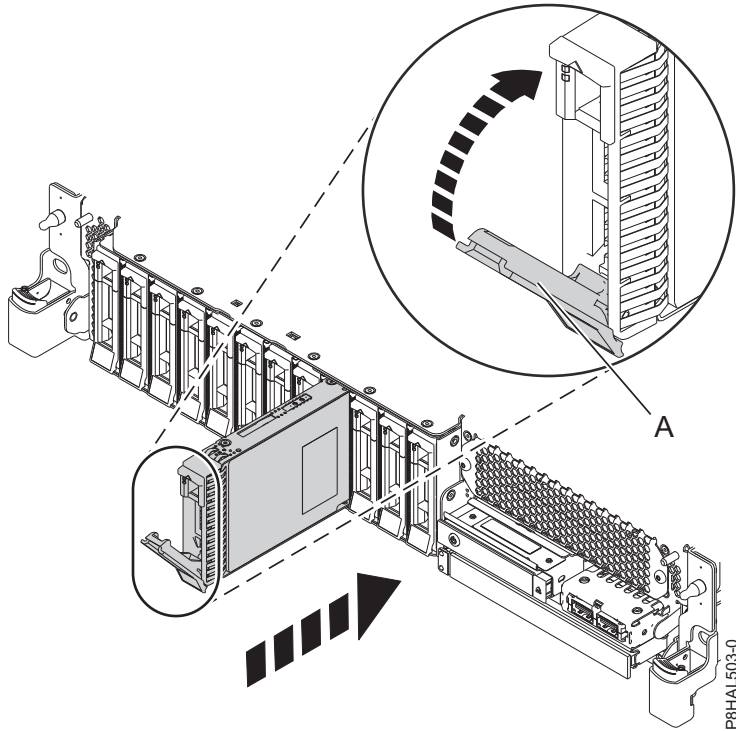
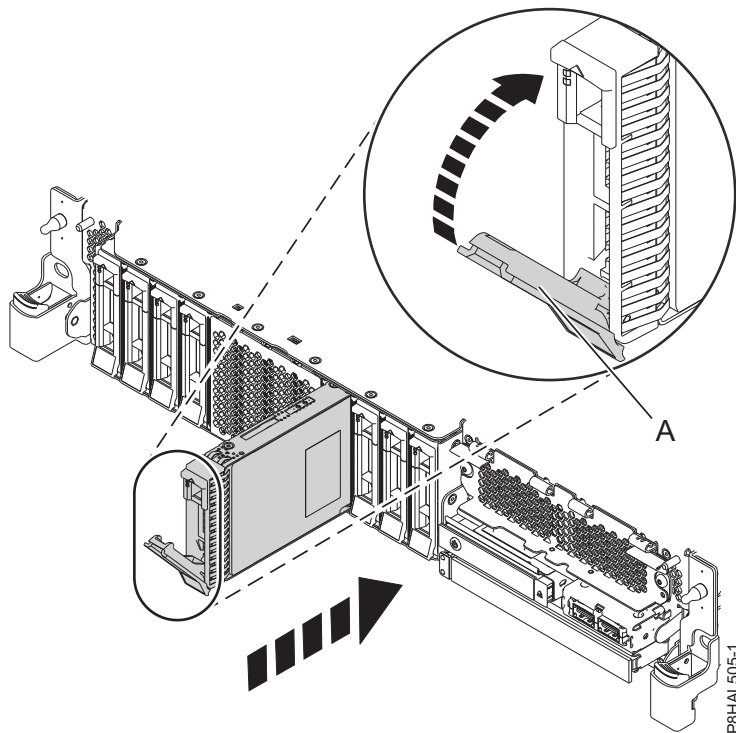

Figure 32. Installing a disk drive in a base function system
Figure 33. Installing a disk drive in an expanded function system
4. Unlock the drive bay handle (A) by pressing it and pulling it out toward you. If the handle is not all the way out, the drive does not slide into the system. See Figure 32 on page 34 and Figure 33 on page 34.
8. When the identify LED flashes for the selected slot, slide the drive all the way into the slot, and push the drive bay handle (A) in until it locks, as shown in Figure 32 on page 34 and Figure 33 on page 34.